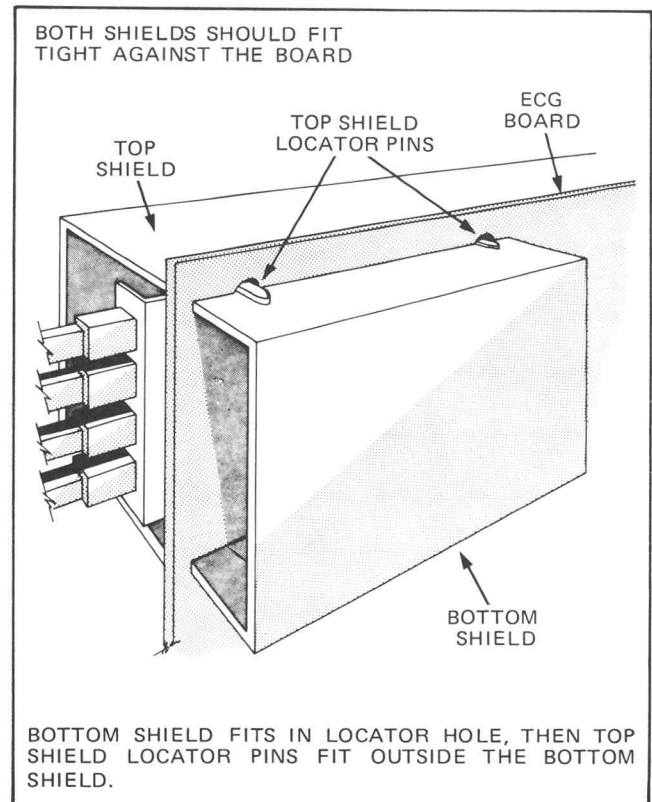

Fig. 4-6. ECG Shield installation.
2. Install the shield as shown in Fig. 4-6.